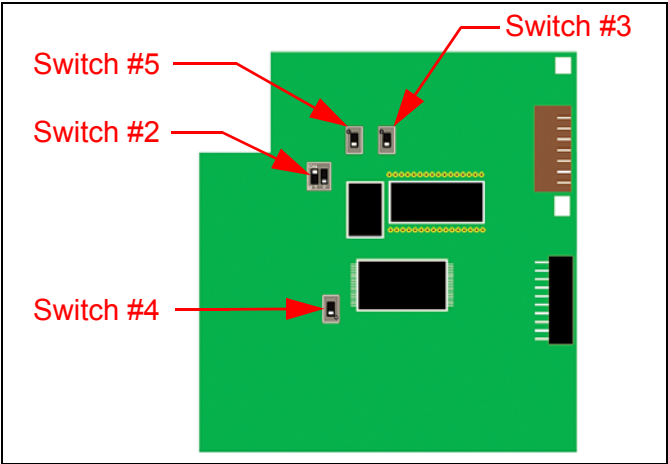

Figure 3 CPU Board Function Select Switches
The CPU Board features four (4) DIP Switches located on the Circuit Board as shown in Figure 3.